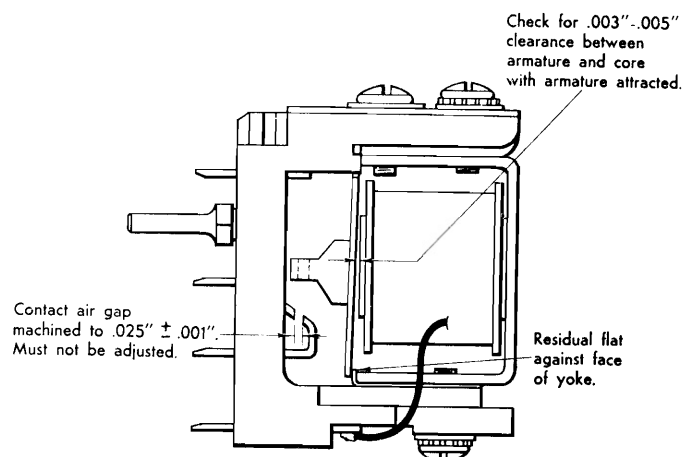

Figure 16
1. Figure 16. Contact air gap is machined to $.025'' \pm .001''$ and should not be adjusted. Any attempt to change this gap will result in an out-of-parallel condition and prevent proper contact in all positions. Check for clearance of $.003''$ to $.005''$ between the armature and core with armature attracted. Adjustment for this clearance involves forming the center section of the armature. The residual must be flat against the face of the yoke, and the armature and core must be free of dirt or metal chips to insure good operation. Position the yoke to provide approximately $.050''$ travel at free end of armature. This is merely a starting point and may be changed to satisfy subsequent adjustments.
2. The armature-core airgap of the above relays must be adjusted for .0015" to .003" instead of the standard .003" to .005", specified in Figure 16.